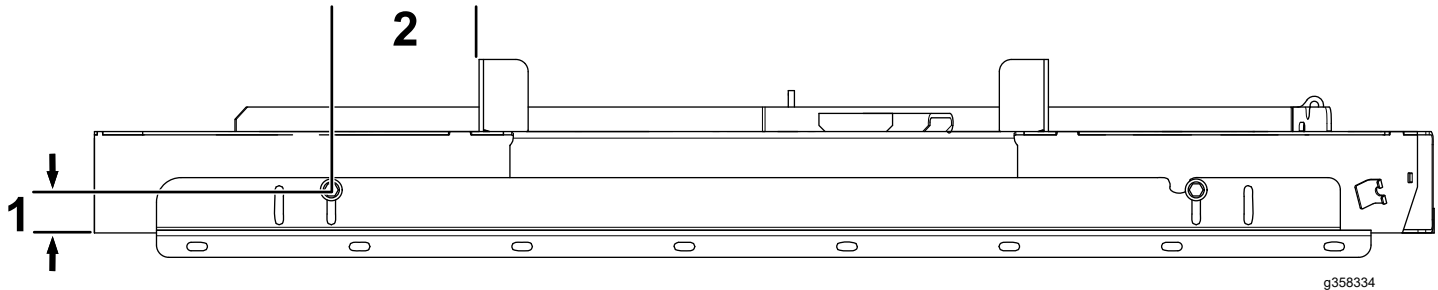

Figure 1
1. Using the striping bracket as the template, drill 2 holes (9/32 inch) into the mower deck using the dimensions shown in Figure 1.